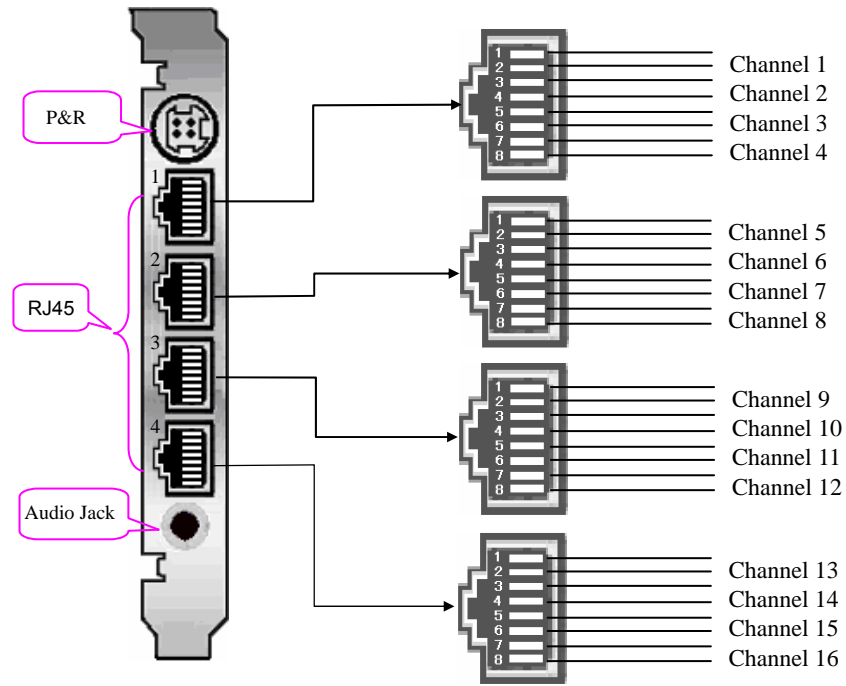

Figure 2-3 Left View
Take the first RJ45 jack on the board (Figure 2-3) for example, the matching relationship among the on-board channel numbers, the 8 pins of the RJ45 jack and the 4-way hub is shown in Table 2-1 below.
- ① The matching relationship for the other three on-board RJ45 jacks and their corresponding pins and channel numbers may be deduced by analogy.
- ② This 4-way hub is available by purchase from our company. If you prefer to construct lines by yourself, we suggest you follow Figure 2-3 and the matching relationship shown in Table 2-1.